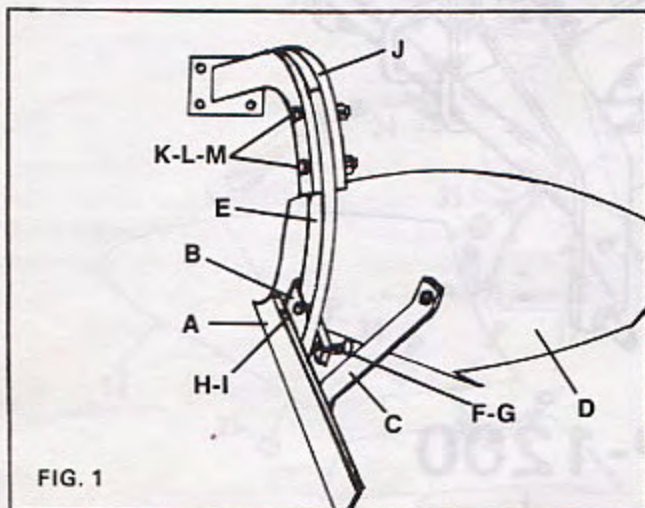

FIG. 1
**FIG. 1.** Secure landside (A) to frog (B), as shown, with two  $\frac{3}{8}$ " x 1" plow bolts and two  $\frac{3}{8}$ " hex nuts. FINGER TIGHTEN. Next, mount brace (C) between moldboard (D) and landside (A). Secure with  $\frac{3}{8}$ " x 1" plow bolts and  $\frac{3}{8}$ " hex nuts. TIGHTEN ALL BOLTS SECURELY. Assemble standard assembly (E) to plow bottom (with  $\frac{5}{8}$ " x 2 $\frac{1}{2}$ " land adjusting bolt (F) and square nut (G) in place) and secure with  $\frac{1}{2}$ " x 1 $\frac{1}{2}$ " carriage bolt (H) and hex nut (I) through top hole and  $\frac{1}{2}$ " x 2" plow bolt and hex nut through remaining hole in landside, frog, and standard. TIGHTEN SECURELY. Position beam assembly (J) over standard, as shown, and secure with two  $\frac{1}{2}$ " x 2 $\frac{1}{2}$ " hex bolts (K), lock washers (L), and hex nuts (M). TIGHTEN SECURELY.